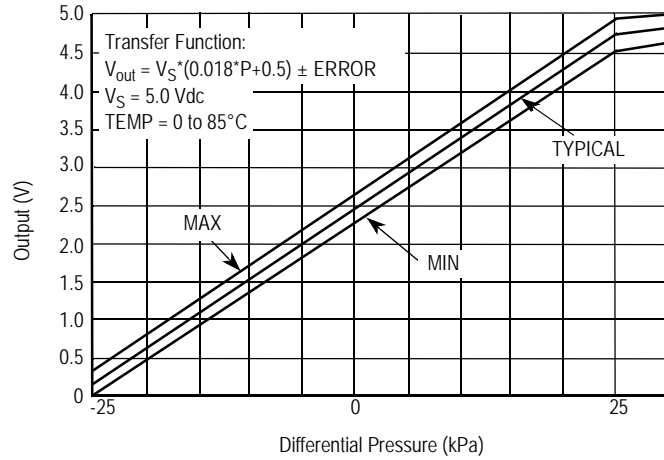
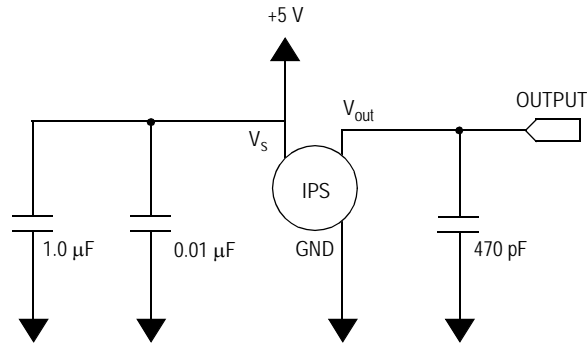

Figure 2. Output versus Pressure Differential
Figure 3. Recommended Power Supply Decoupling and Output Filtering
**Table 2. Operating Characteristics** (VS = 5.0 Vdc, TA = 25°C unless otherwise noted, P1 > P2. Decoupling circuit shown in Figure 3 required to meet electrical specifications.)
Figure 2 shows the sensor output signal relative to pressure input. Typical, minimum, and maximum output curves are shown for operation over a temperature range of 0° to 85°C using the decoupling circuit shown in Figure 3. The output will saturate outside of the specified pressure range.
Figure 3 shows the recommended decoupling circuit for interfacing the output of the integrated sensor to the A/D input of a microprocessor or microcontroller. Proper decoupling of the power supply is recommended.